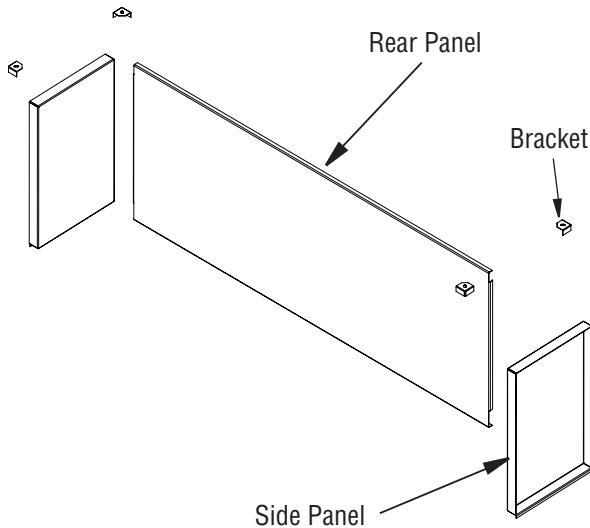

Figure 21 - Removing Rear Interior Wall for See-Thru Applications
1. Through firebox opening in the front of the fireplace, unscrew 4 corner brackets from the firebox top (See **Figure 21**).
4. Remove rear interior wall (see **Figure 21, Page 15**).